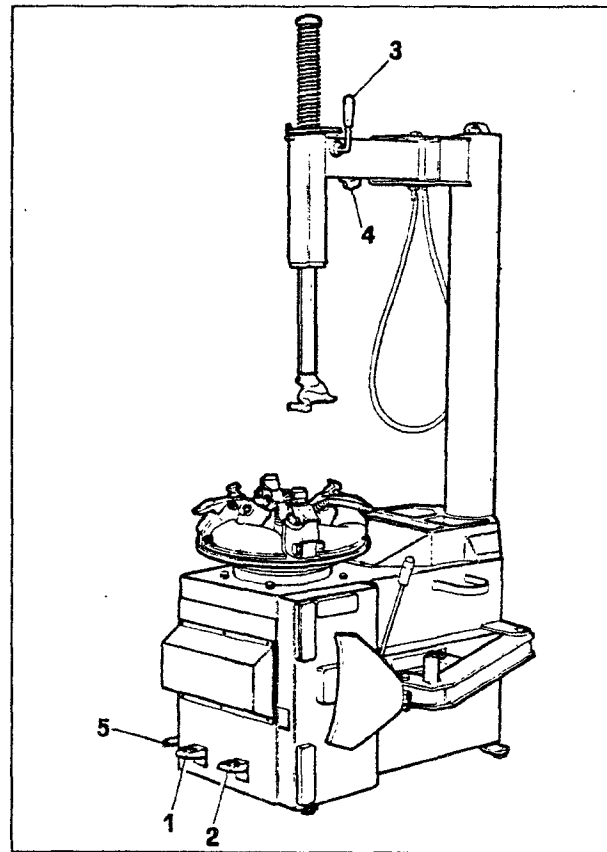

Fig.7.
A. Press down and release the left pedal (#1 Fig.7) and the rim clamps will move inward.
Press down and hold, the right pedal (#2 Fig.7) and the bead breaker arm will move towards the machine.
C. Close the bead breaker arm. Press down and hold, the right pedal (#2 Fig.7) and the turntable turns clockwise.
D. Move the lock handle (#3 Fig.7) up to lock the vertical slide, pull it down to release it.
E. Use the adjustment knob (#4 Fig.7) to position the mount/demount head for different diameter wheels.